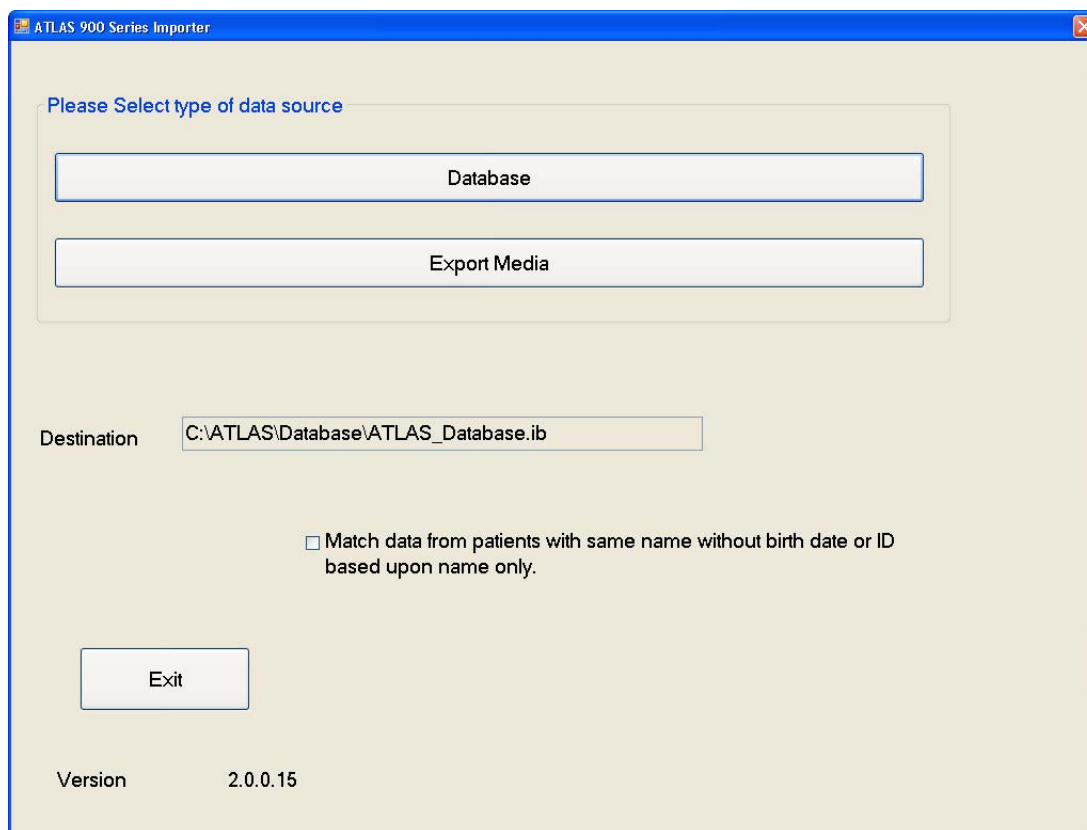

Figure 11-7 ATLAS 900 Series Importer Dialog
1. While in patient selection mode, click **Tools > Run Atlas Importer** to display the ATLAS 900 Series Importer dialog (Figure 11-7).